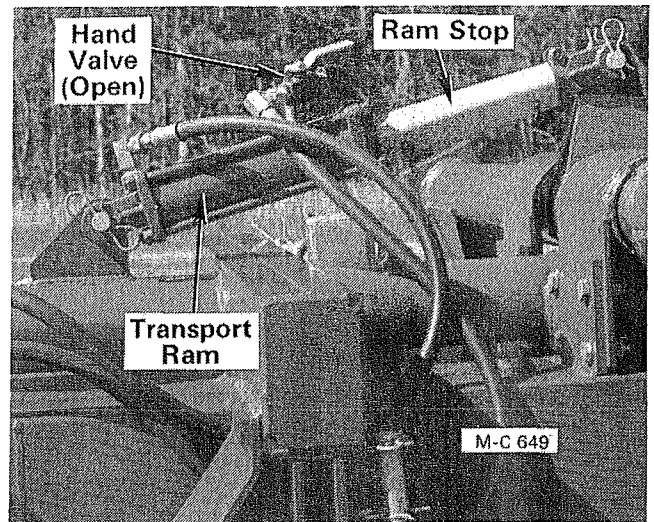
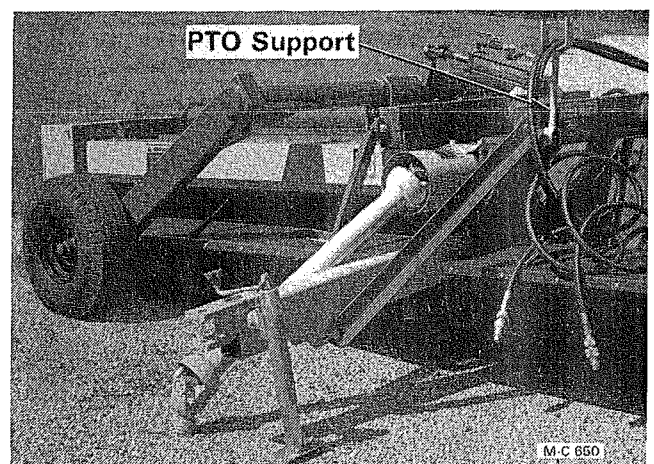
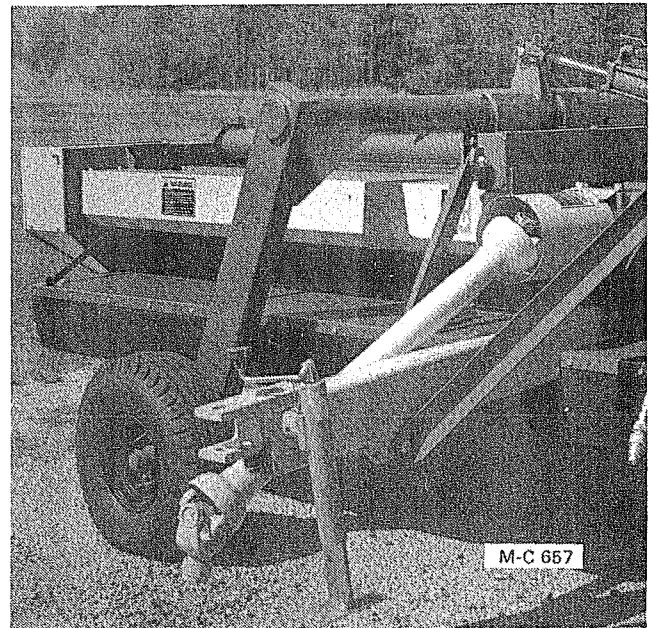

Figure 15A
Figure 15B
Figure 15J
3. Remove the transport ram stop, see Figure 15A. Remove the PTO shaft support from the pole, put it on the mount on the left side of the Shredder and run the hydraulic hoses through it, see Figure 15B.
4. Remove the pole jack from the mount on the right side of the Shredder, put it on the pole and lower the jack to the ground, see Figure 15B. Start the tractor and lower the right
side of the Shredder to the ground with the transport ram as shown in Figure 15B.
10. Raise the Shredder to the transport position, see Figure 15J. Put the ram stop on the transport ram, see Figure 15A page 11.